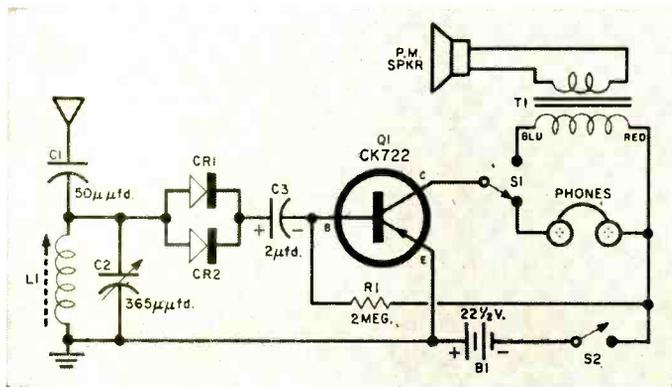

Fig. 3.
Figure 3 comes from Robert Bari (1580 President St., Brooklyn 13, N. Y.). This circuit has several interesting features: (1)
Fig. 3. Modification required to convert a fluorescent lamp starter into a sensing element of a thermostatic control circuit. "Before" view (top) shows internal assembly of starter after protective glass is broken. "After" view illustrates modification made to the contact to enable use of the starter as a thermostatic switch.
To reverse this action, bend the free vertical bar as shown in Fig. 3 so that the inner brass face of the strip barely touches the bent bar at room temperature. The temperature at which contact will be broken will then depend upon the extent to which the strip presses on the vertical bar. This can easily be adjusted experimentally by further bending either to the right or left.